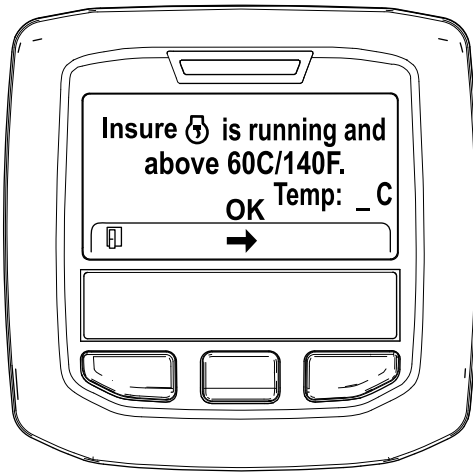

Figure 52
5. If the coolant temperature is below 60°C (140°F) the "Insure  is running and above 60C/140F" message displays. (Figure 52).